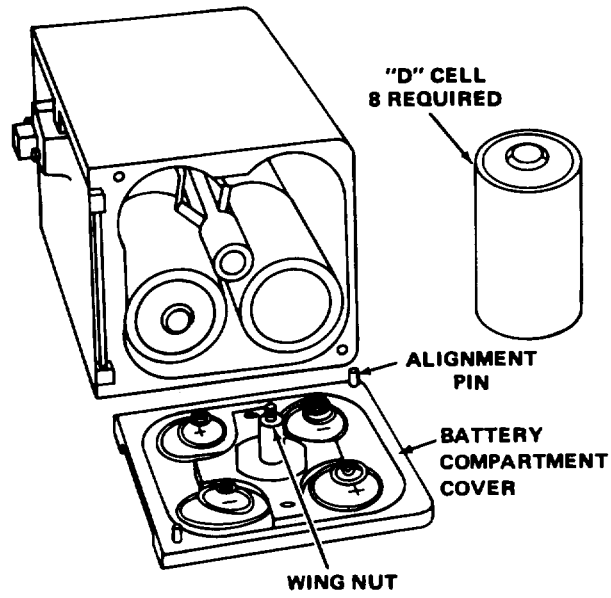

Figure 2-9. Battery Assembly BA-522/PNH- 7 for Recorder/Reproducer AN/PNH- 7
(3) Remove battery compartment cover from battery assembly as shown in figure 2-9.
(4) Remove discharged batteries. Dispose of discharged nonrechargeable BA-30 batteries. Save discharged rechargeable batteries (not normally used).